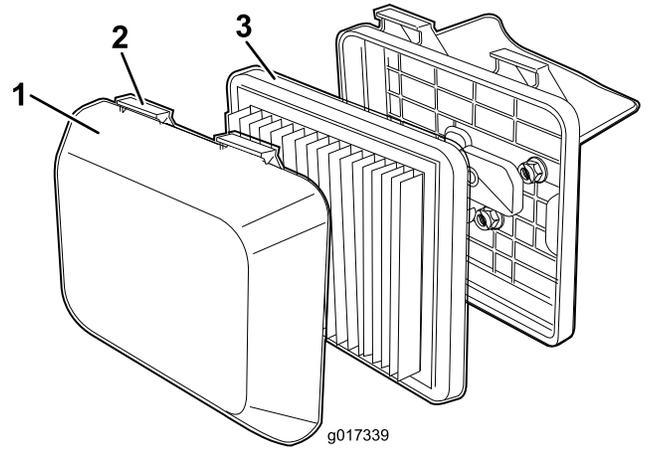

Figure 19
1. Press down on the latch tabs on top of the air cleaner cover (Figure 19).
3. Remove the filter (Figure 19).